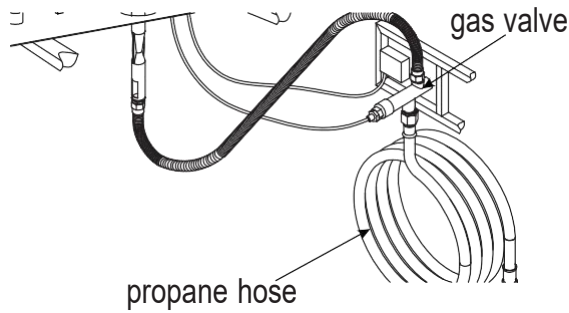

Figure 8
1. Disconnect the propane hose from the gas valve (see Figure 8).